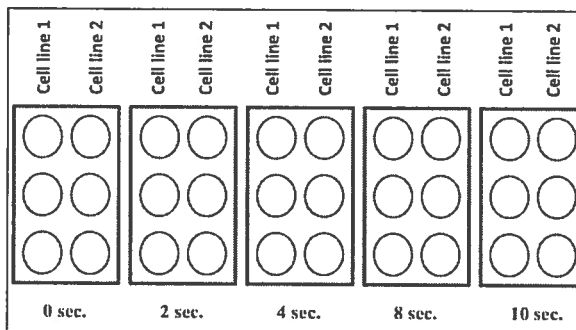

Figure 11- Diagram of the six-well plates. Seed 3 wells (or a row) of each plate with each cell line.
11. Label the plates as shown in (Fig. 11) and put them in the incubator.